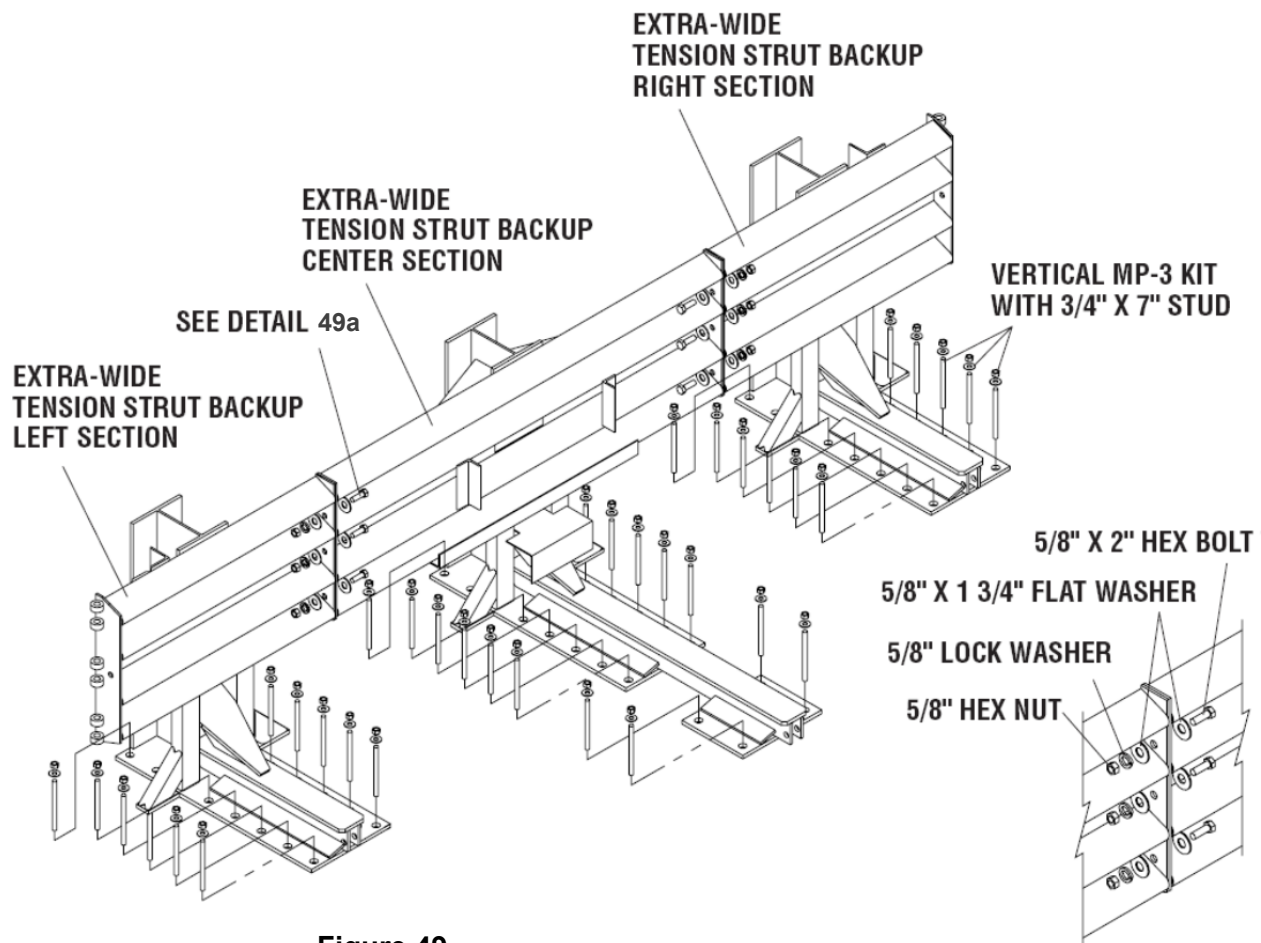

Figure 49
C) Extra-Wide Tension Strut Backup Assembly (Figure 49)
Secure the Backup sections to each other using 5/8" x 2" hex bolt, 5/8" x 1 3/4" flat washer (2), 5/8" lock washer and 5/8" hex nut (6 places) as shown in Figure 49 and Detail 49a.